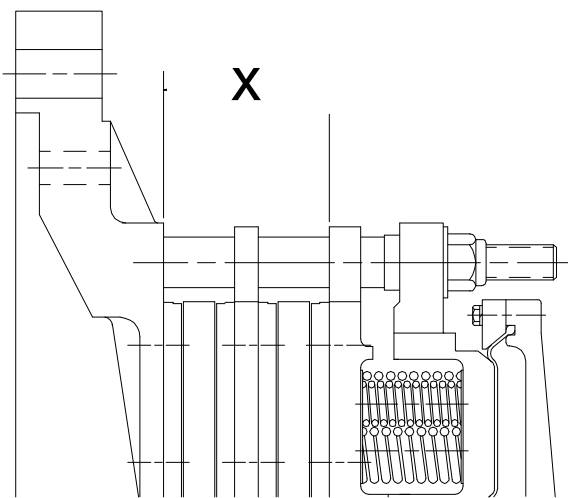

Fig. 6
- 4.2.1 Brake adjustment is required as the friction material wears. To determine when adjustment is required, measure the gap "X" between the pressure plate and the mounting flange with the brake engaged (air released), as shown on Figure 6. Compare the measured gap to the values listed in Table 4. Adjust the brake by re-arranging the wear spacers and spacer plates to the appropriate positions per the following procedures.
Friction disc replacement is required when worn to the wear indicating step shown on Figure 6, or if oil or grease have contaminated the surface.